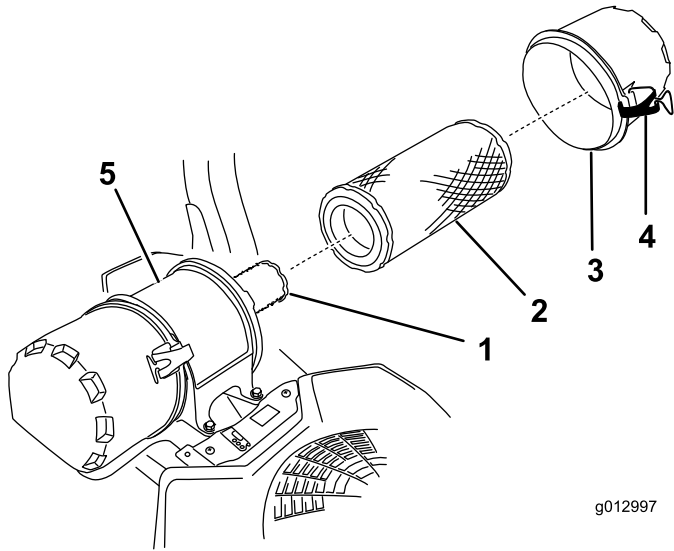

Figure 44
6. Release the latches on the air cleaner and pull the air cleaner cover off the air cleaner body (Figure 44).
8. Gently slide the primary filter out of the air cleaner body (Figure 44).
- If the inner filter is being replaced, carefully slide it into the filter body (Figure 44).
- Carefully slide the primary filter over the inner filter (Figure 44).
- Install the air cleaner cover and secure the latches (Figure 44).